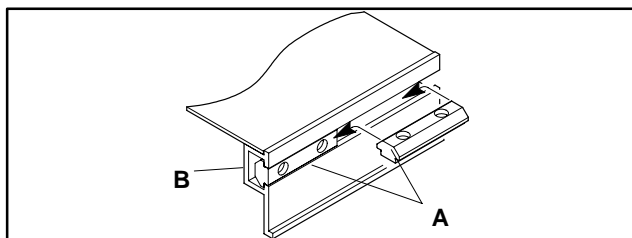

Figure 1: Drop-in T-Bar Installation Detail
1. Insert each drop-in T-bar (A of Figure 1) into the conveyor frame T-slot (B) by rolling it into position as shown.